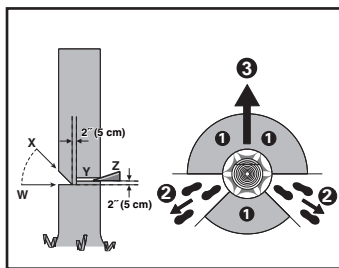

Figure 2
The chainsaw operator should keep on the uphill side of the terrain as the tree is likely to roll or slide downhill after it is felled. An escape path should be planned and cleared as necessary before cuts are started. The escape path should extend back and diagonally to the rear of the expected line of fall as illustrated in Figure 2. Before felling is started, consider the natural lean of the tree, the location of larger branches and the wind direction to judge which way the tree will fall.
Make the notch 1/3 the diameter of the tree, perpendicular to the direction of falls as illustrated in Figure 2. Make the lower horizontal notching cut (W) first. This will help to avoid pinching either the saw chain or the guide bar when the second notch (X) is being made.
cm) higher than the horizontal notching cut as illustrated in Figure 2. Keep the felling back cut parallel to the horizontal notching cut. Make the felling back cut so enough wood is left to act as a hinge. The hinge wood keeps the tree from twisting and falling in the wrong direction. Do not cut through the hinge.